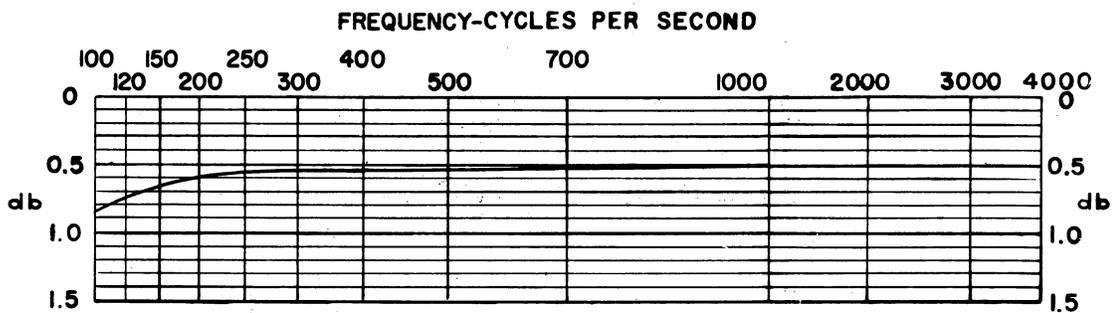

Fig. 5 - Typical 900-ohm Frequency Response
3.01 The 0.5 db loss introduced by the test set is uniform in both directions of transmission through the set when tests are made at 600 or 900 ohms. The 900-ohm path is obtained with a 1.5:1 impedance transformer of low loss (about 0.3 db). The coil is built out to 0.5 ± 0.03 db in steps of 0.05 db by means of strapping resistors. The deviation in impedance of the 2AB set from 900 ohms is less than 5% when terminated by a 600-ohm test set. Between 200 and 3500 cycles this loss is substantially flat as shown in Fig. 5.